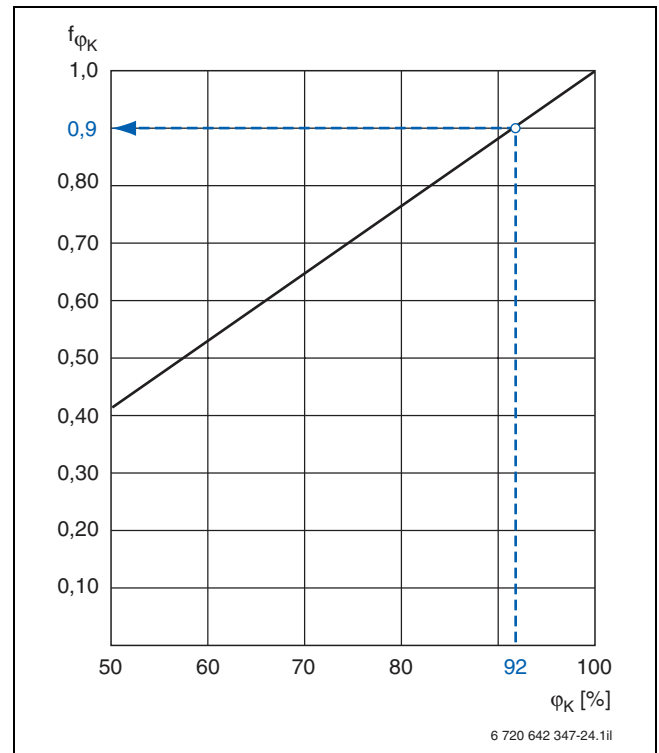

Fig. 28 Conversion factor for calculating the rated output of the condensing heat exchanger, relative to a 30 °C water inlet temperature
$f_{\varphi K}$  Conversion factor → Fig. 28
- Conversion factors  $f_{\varphi K} = 0.9$  (→ Fig. 28)